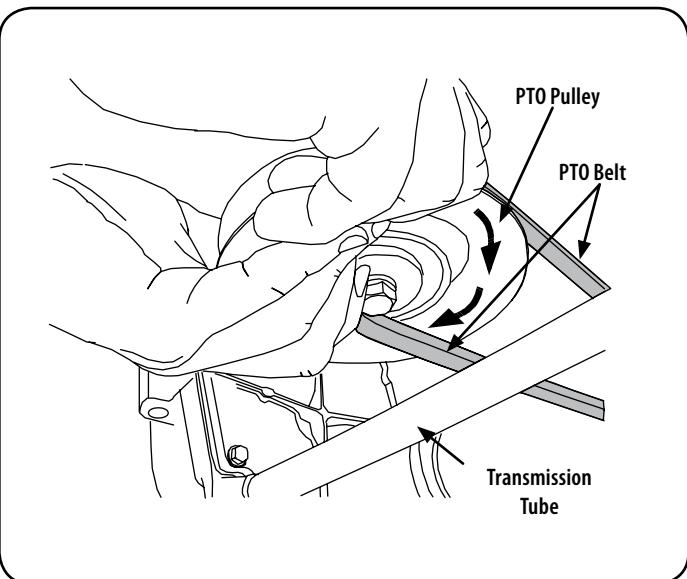

Figure 35
- While still holding the belt downward, continue turning the PTO pulley until the belt is rolled off the pulley. Refer to Figure 35.
- Pull the right side of the belt rearward and place the narrow V side of the belt into the PTO pulley. See Figure 35.
- While holding the belt and pulley together, rotate the pulley to the left (See Figure 35). Continue holding and rotating the pulley and belt until the belt is fully rolled onto the PTO pulley.